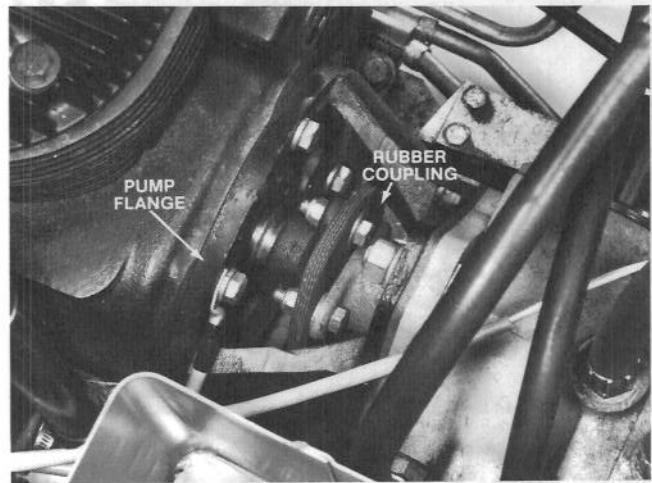

Figure 30
5. Remove cap screws securing pump flange to engine (Fig. 30).
6. Remove capscrews, spacers, washers and locknuts securing rubber coupling between engine coupling and pump hub (Fig. 30). Remove pump.
8. Install complete pump assembly in position so engine coupling and pump hub align (Fig. 30). Secure pump assembly, by means of the mount, to the engine with four capscrews (Fig. 30).